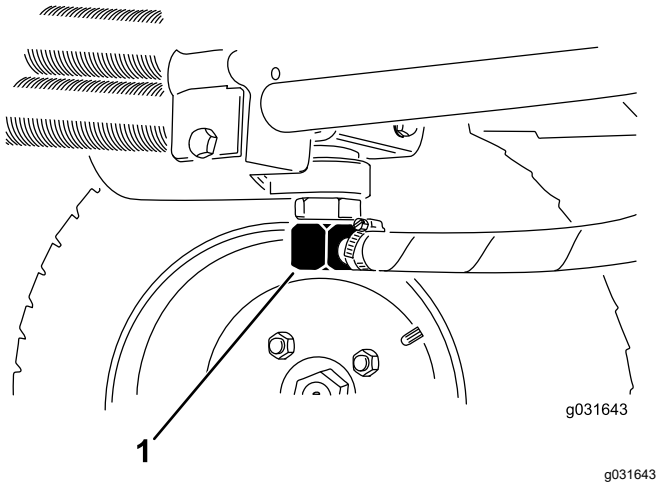

Figure 66
2. Disconnect the hydraulic line or remove the hydraulic filter and let the hydraulic fluid flow into a drain pan (Figure 65 and Figure 66).
3. Install the hydraulic line when the hydraulic fluid stops draining (Figure 66).